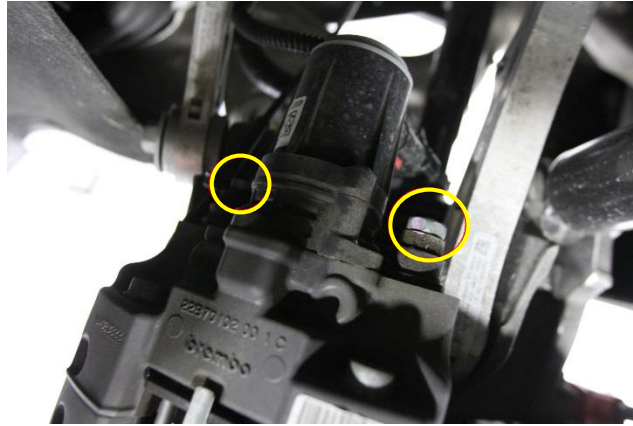

Figure 17
25. Remove and discard the bolts (x2) that attach the LH parking brake caliper to the rear LH knuckle, and then remove the caliper from the vehicle (Figure 17).